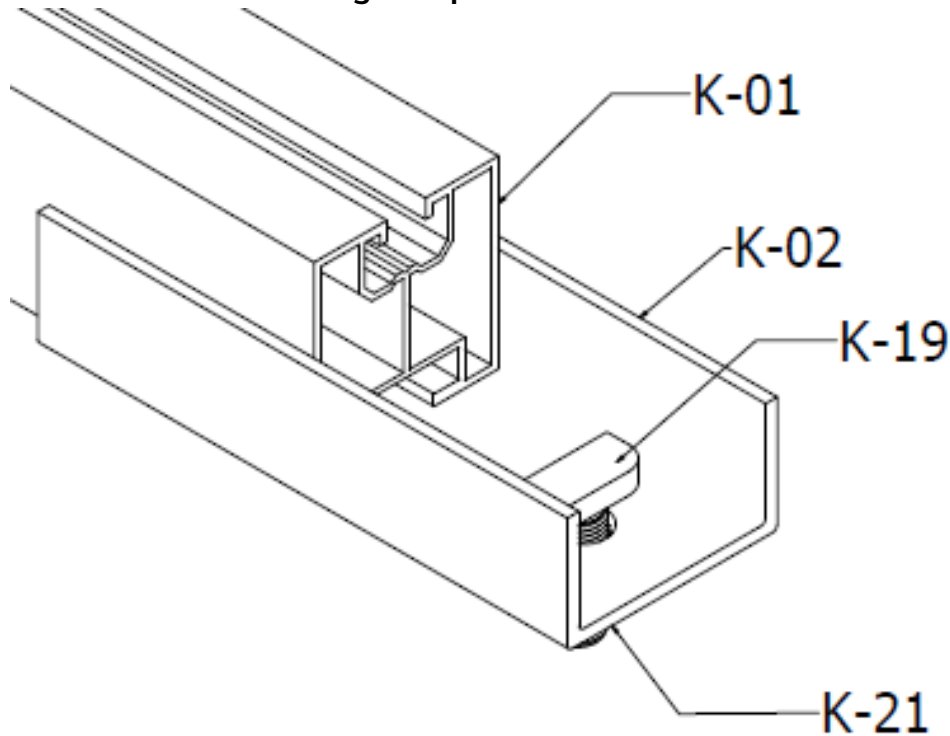

FIG. 11. Assembly of K-02 connector with K-01 profile
- 11.** Prepare the aluminium mounting profiles. Connect them in an amount corresponding to the length of the entire structure. Keep a few centimetres of reserve to allow for possible adjustment. In order to maintain the continuity of the profiles, at the points where they are joined one after the other, use the K-02 connector by applying it to the ends of two adjacent profiles. Screw the connector together using two screws from K-19 "T-bolts" – Fig. 11. Profiles can be cut to the required length.